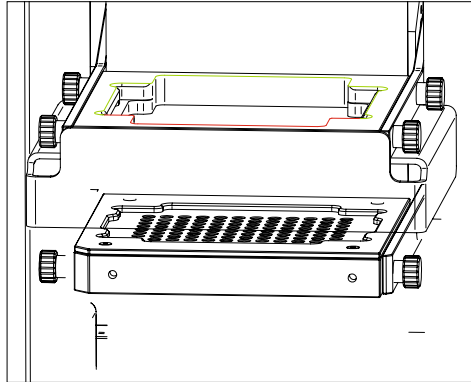
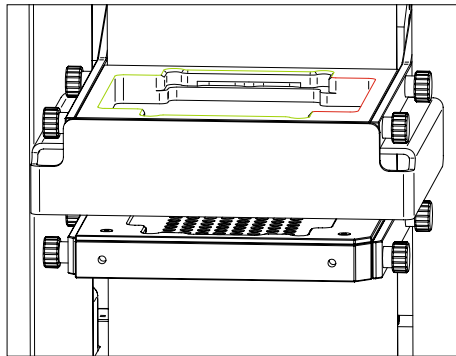

Figure 5a: Landscape orientation.
Figure 5b: Portrait orientation.
2. Align the MultiMACS 96 Magnet with the metal brackets. The holes in the metal brackets must be aligned with the screw threads in the MultiMACS 96 Magnet. The holes can only be aligned with the screw threads if the notched corner of the magnet is to the left (landscape orientation, refer to figure 5a) or lower right (portrait orientation, refer to figure 5b).